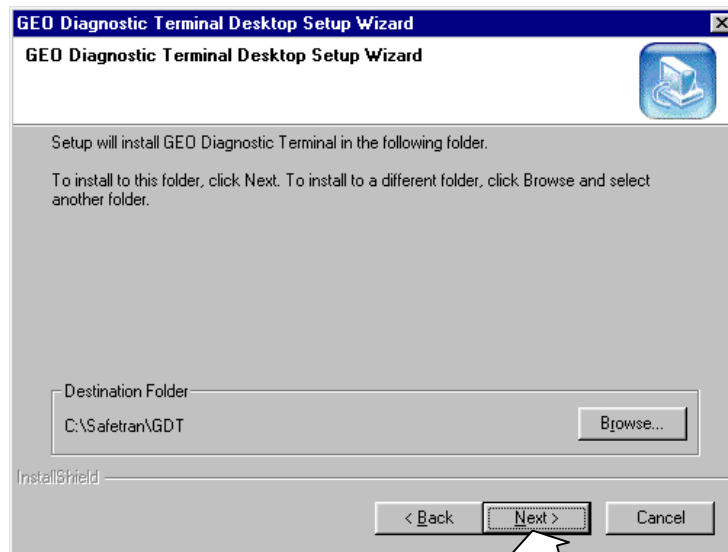

Figure 2-3
3. The “Installation Destination” window is displayed (figure 2-3).